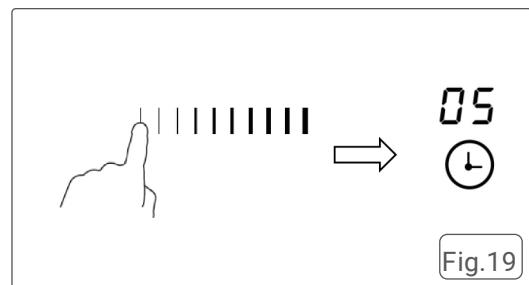

Fig.19
- 3. Set the time by touching the "slider" control. Fig.19